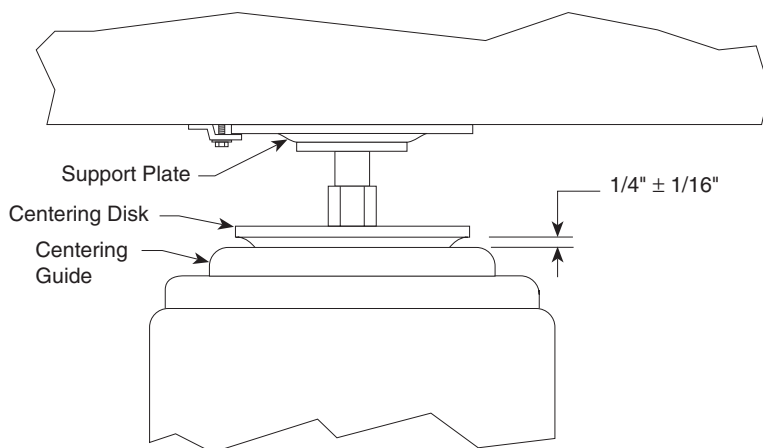

Figure 2.11 — Floating Height Adjustment
- A. After the table floats, check the position of the centering guide and flange of all isolators (Figure 2.11). The gap between the guide and flange should be  $\frac{1}{4}'' \pm \frac{1}{16}''$  (6mm  $\pm$  1.5mm).